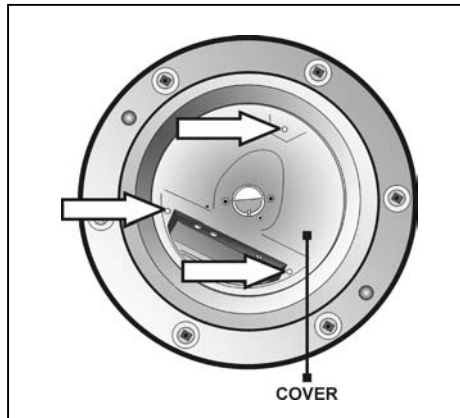

Figure 5-8: Heater Bank Cover retaining bolts.
2. Remove the three (3) bolts from the Heater Bank Cover (Figure 5-8).